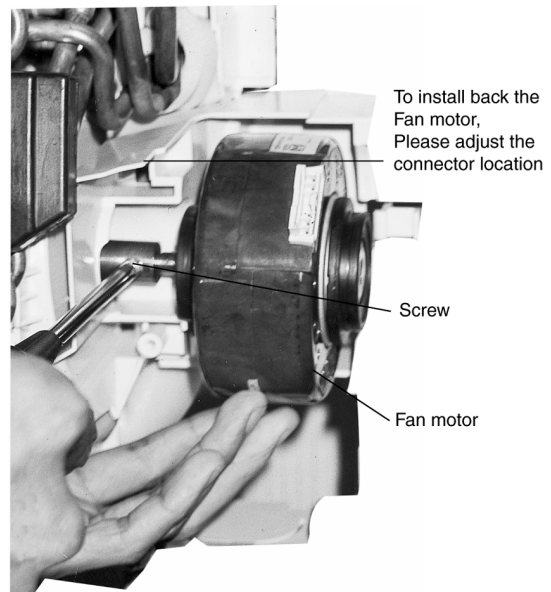

Fig. 5
- Finally remove the fan motor by removing the screw. (Fig. 5)
- REMINDER - To reinstall the fan motor, adjust the connector of the fan motor as Fig. 5.